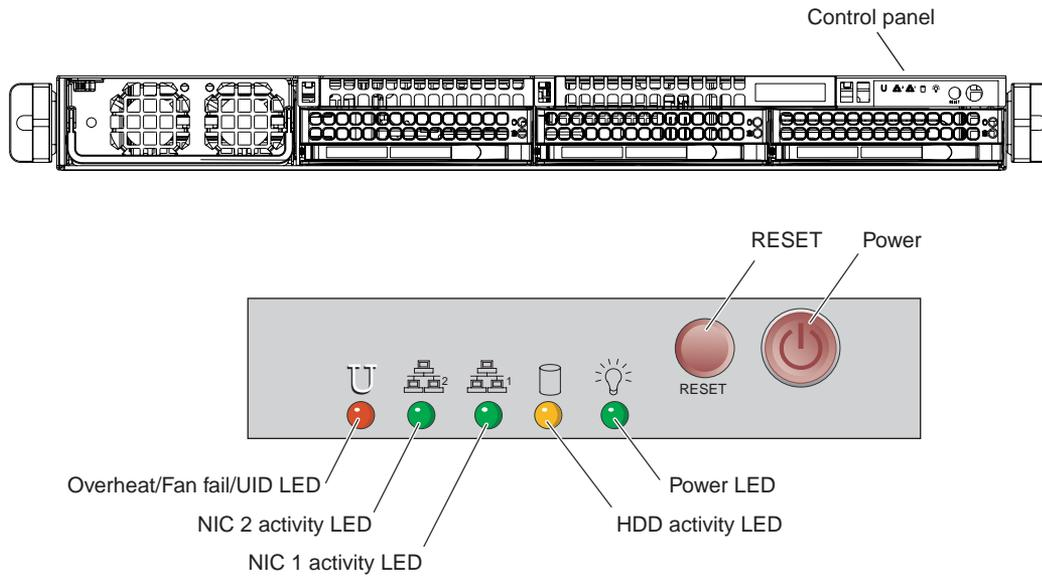

Figure 3-1 Serverboard Control Panel Example
- **Power** - This is the main power button, which is used to apply or turn off the main system power supply. Depressing this button removes the main power but keeps standby power supplied to the serverboard, see Figure 3-1 on page 20.